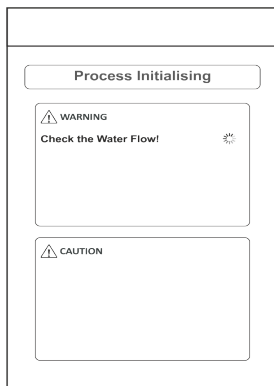

Fig. No. 23.3
e. **Process Initialization** (Ref. Fig. No. 23.3 & 23.4)